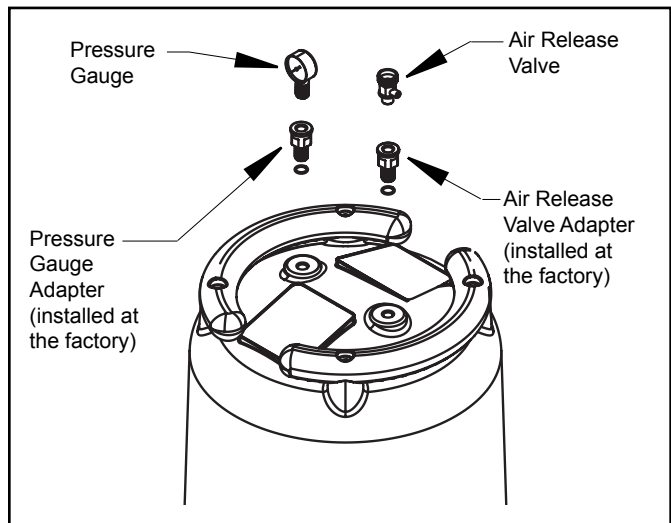

Figure 3. Pressure Gauge and Pressure Release Assembly
4. Wrap teflon tape around the threads on the pressure gauge and install it into the threaded adapter on top of the filter tank (see Fig. 3).
5. Wrap teflon tape around the threads on the air release valve and install it into the threaded adapter on top of the filter tank (see Fig. 3).